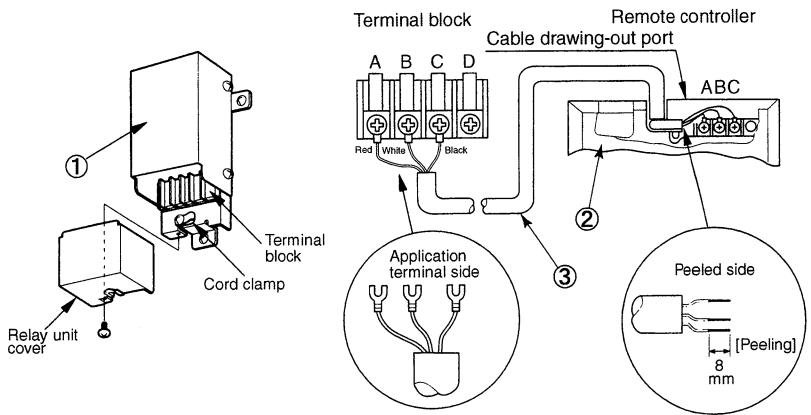

Fig.7
1. Fit the application terminal side of remote controller cable ③ to the terminal block side of relay unit ①, and then connect cable by matching letters on wired remote controller ②, A, B, and C to those on the terminal block. (Fig.7)